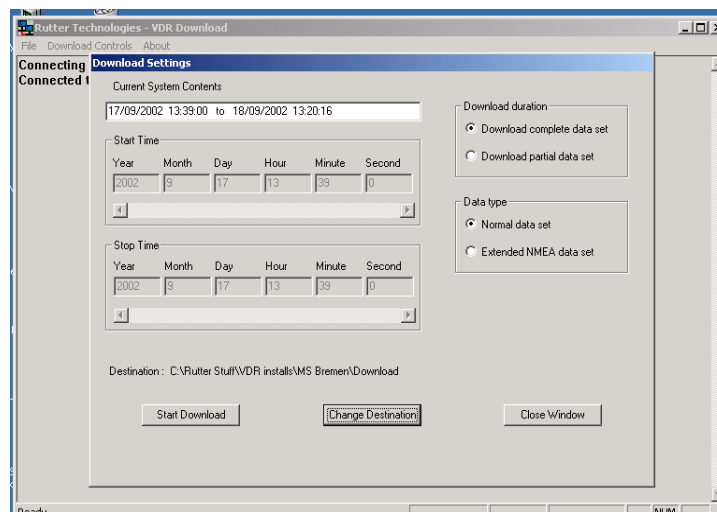

Figure 2-5 - Download Settings Window
3. Once prompted with the 'Download Settings' window (see Figure 2.5 - Download Settings Window), choose from the following available settings:
The Extended NMEA data set is a VDR-100G2 option, which supports the recording of up to 185 days of NMEA data to the DMM. When an extended NMEA download occurs, no video or audio data is included in the download. To select the extended NMEA download, check the 'Extended NMEA Download' located in the 'Download Settings' window (see *Figure 2.5 - Download Settings Window*).
A 'complete' download is the process of downloading a full 24-hour data set from the DMM. As a user may want only a 'partial' download, a 'Download partial data set' option is available. Select either 'Download complete data set' or 'Download partial data set' in the 'Download Settings' window (see *Figure 2.5 - Download Settings Window*) to download the desired data set.